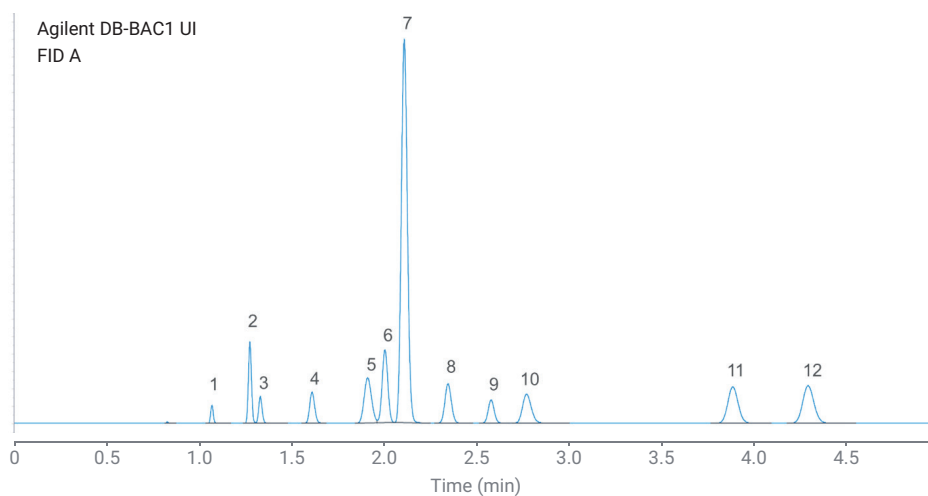

Figure 5. FID A chromatogram of the Agilent Blood Alcohol checkout mix on the Agilent J&W DB-BAC1 Ultra Inert column.
The Agilent Blood Alcohol checkout mix (part number 5190-9765) is a 12-compound mixture that is used to confirm proper chromatographic performance of the system. Each compound is present at 50 mg/dL, which makes the mixture an excellent standard for characterizing method precision. Figures 5 and 6 show the separation of the Blood Alcohol checkout mix on both DB-BAC1 UI and DB-BAC2 UI columns respectively, and Table 4 lists the identification and retention times of the peaks. To demonstrate the repeatability of the method, 12 replicates of the checkout mix were injected consecutively and analyzed, and the results are shown in Table 5.
Table 4. Peak identities and retention times (RT) of the Agilent Blood Alcohol checkout mix shown in Figures 5 and 6.